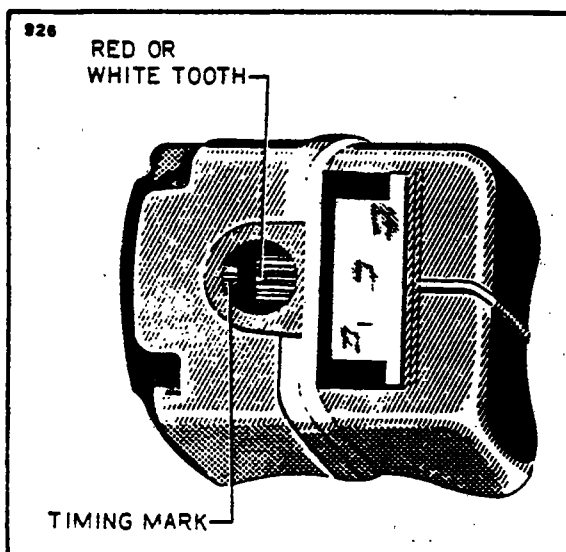
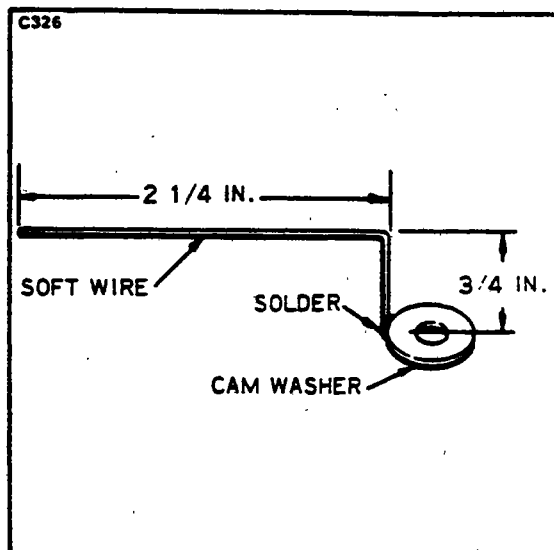

Figure 8-16. Magneto Timing Marks
Figure 8-17. Timing Pointer
c. With timing plate and pointer attached (Refer to Figure 8-17.) and pointer set at zero, rotate coupling from neutral in a left hand direction 10 degrees. Appearing through timing hole, ascertain if the white or red tooth aligns with the white line of the distributor block. (Refer to Figure 8-16.) Alignment may not vary over  $\pm 4$  degrees.
A timing kit, including timing plate, etc. may be purchased through the engine or magneto manufacturer. A pointer may be formed as shown in Figure 8-17.